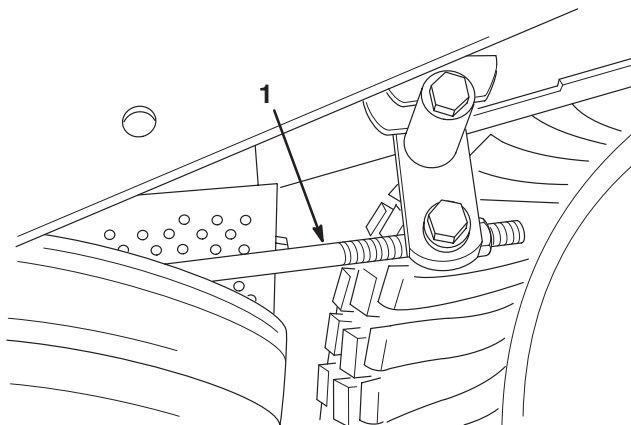

Figure 28
3. Loosen the jam nuts on the control rod (Fig. 28).